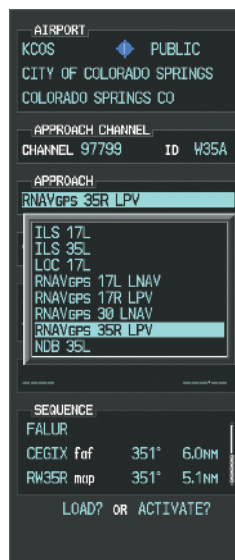

Figure 5-132 List of Available Approaches
c) Press the **ENT** Key. A list of available approaches for the destination airport is displayed as in Figure 5-132.
d) Turn either **FMS** Knob to select the RNAV LPV approach for 35R as shown in Figure 5-132.